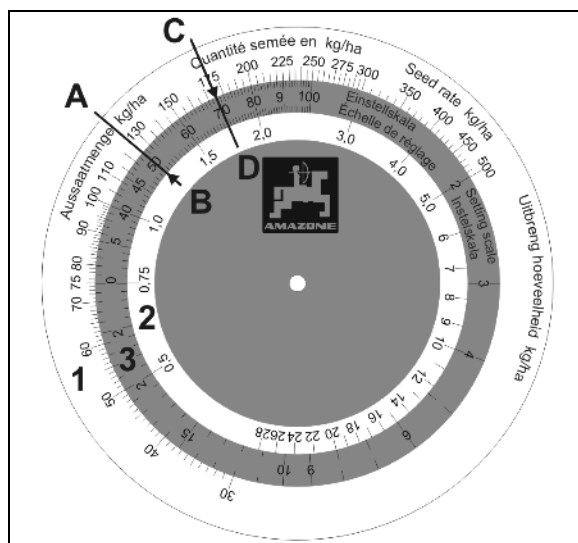

Fig. 92
3. Calibrate the seed: Rotate the calibration trough and push back onto the bracket (Fig. 92).